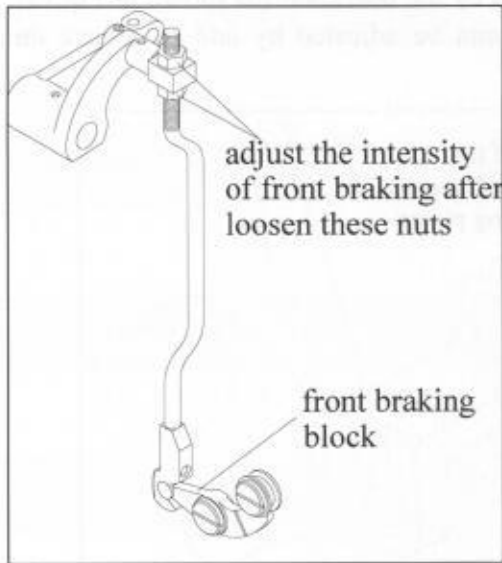

Fig.9
4.7.3 Loosen the two nuts and adjust the front braking block to set the intensity of lower thread front braking. (as shown in Fig.9)